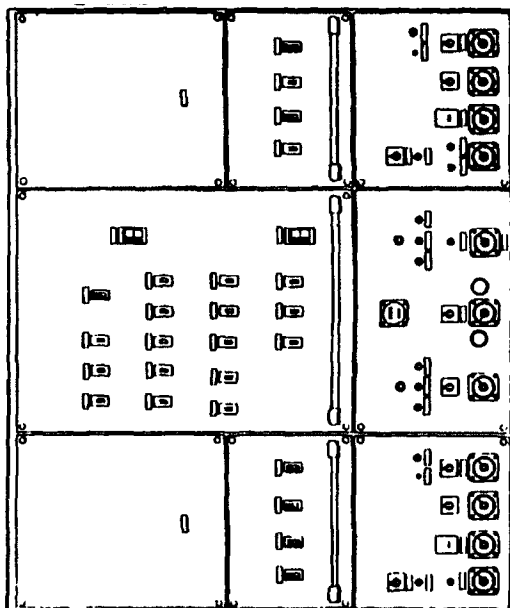

Figure 2-402. Main Switchboard.
(1) Prepare main switchboard (Figure 2-402). Set all circuit breakers to OFF position.
(2) *Main switchboard (Figure 2-402)*. Bring selected SSDG on line (see paragraphs 2-6 or 2-11).